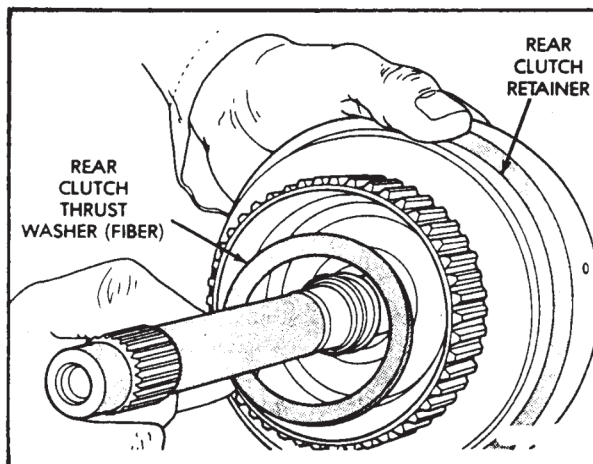

Figure 70
13. Install fiber thrust washer on the rear clutch drum as shown in Figure 70, and retain with Trans-Jel.
14. Install the front clutch housing onto the rear clutch housing, as shown in Figure 70, rotating the front clutch until fully seated, and set assembly aside for final assembly.